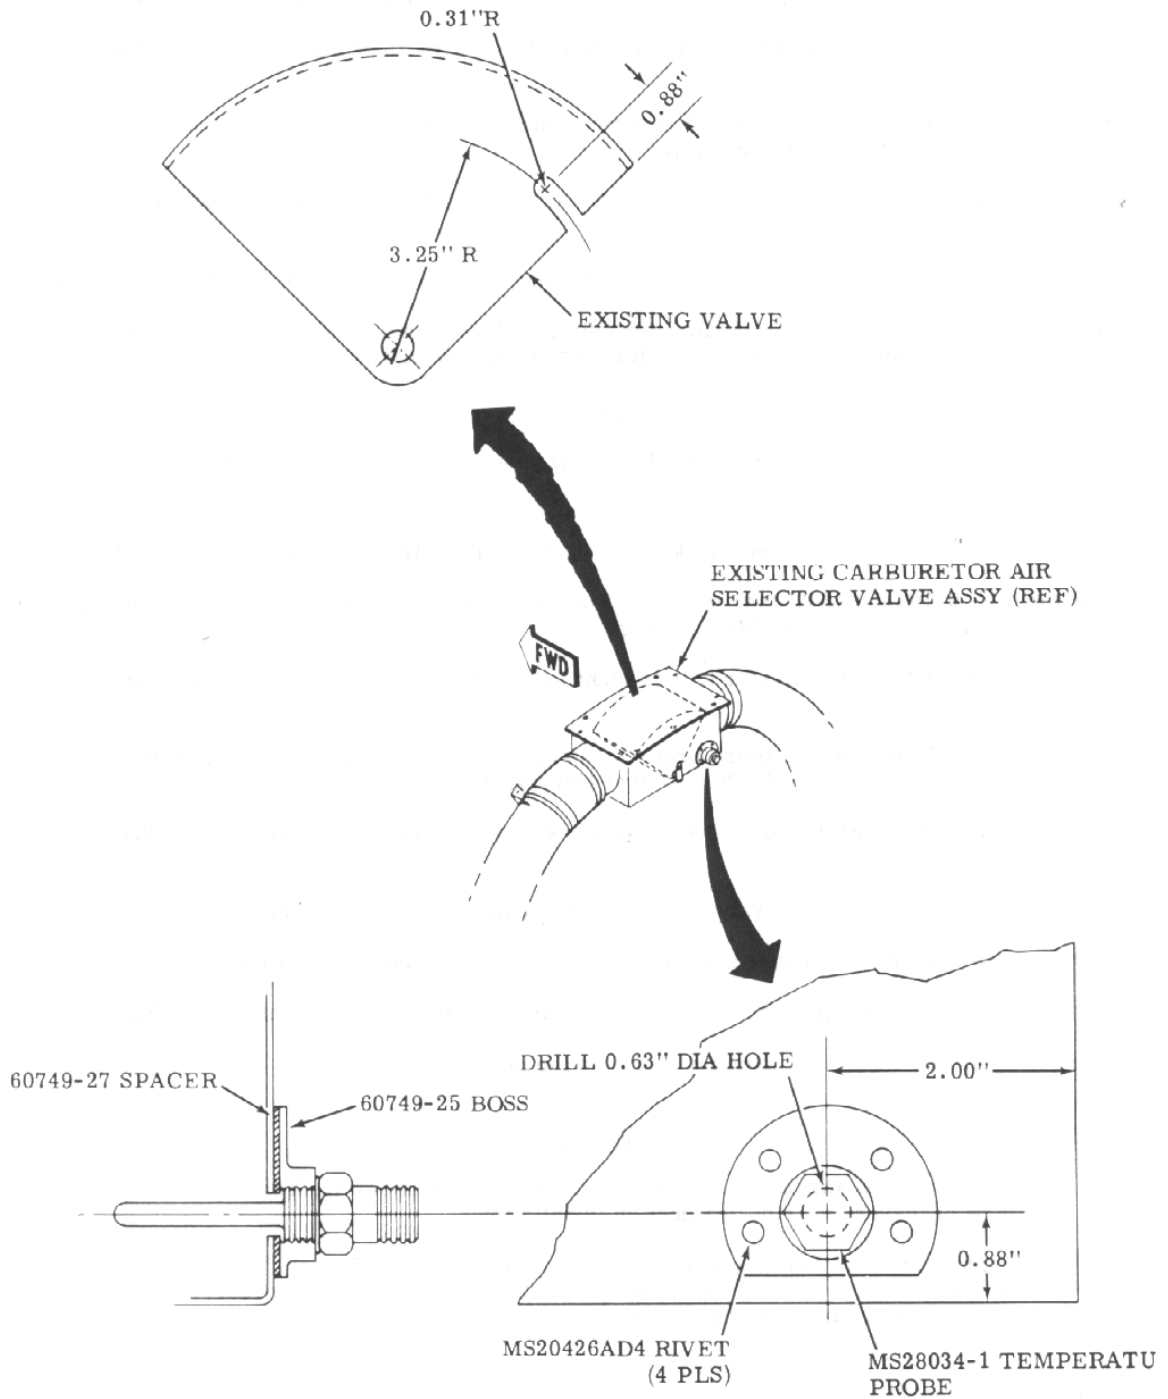

Figure 2
17. Locate and drill a 0.63 inch diameter hole in right lower aft corner of existing carburetor air selector valve assembly (see Figure 2).
18. Drill and install 60749-25 temperature probe boss and 60749-27 spacer on existing carburetor air selector valve assembly with MS20426AD4 rivet (see Figure 2).
19. Make a cutout in the carburetor air selector valve assembly valve to clear air temperature probe (see Figure 2).
22. Install MS28034-1 temperature probe on carburetor air selector valve assembly (see Figure 2).